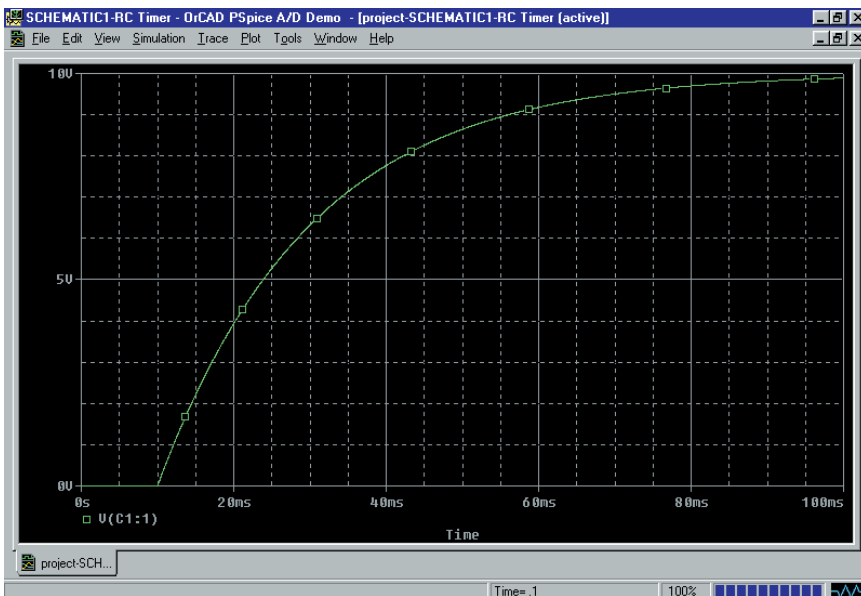

FIGURE A-6 Probe Display—Single Trace
4. Once in the Probe window, you will see the capacitor voltage as shown in Figure A-6.